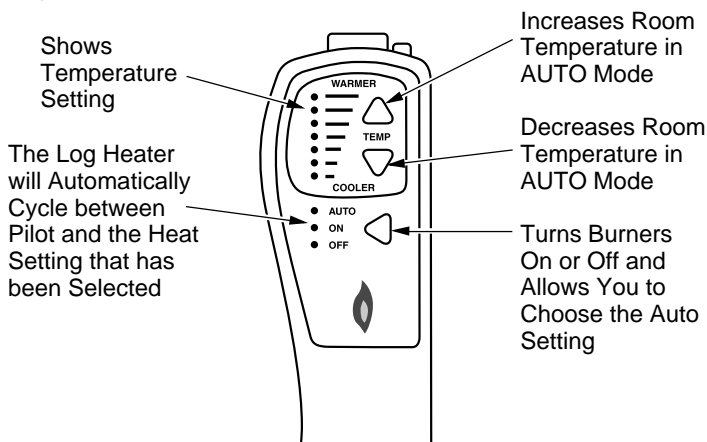

Figure 38 - Thermostat Hand-Held Remote Control Unit Selections (GHRCTA Only)
- 2b. Press the AUTO/ON/OFF button on the hand-held remote control (see Figure 38, page 23). The lights to the left of the button will show AUTO, ON, or OFF.